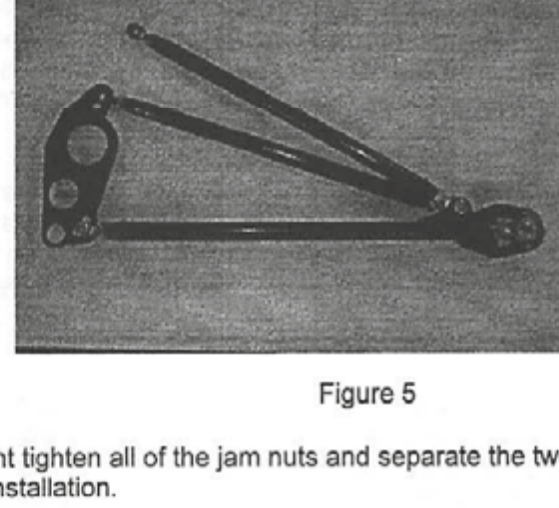

Figure 5
4. Next, attach the front end of the upper bars to the mounts on the lower bar using the 3/4" bolts and nuts, then tighten. See Figure 5.
5. Using two of the 5/8" bolts provided in the kit, insert one through each of the solid rod eyes of one ladder bar. Insert one of the 3/4" bolts through the front rod end. All three bolts must be facing the same direction. Lay the bar on the ground with the threads of the bolts facing up. Next, take one of the housing brackets and align the two rear bolts so that they go through the appropriate holes in the housing bracket. See Figure 5 and 6.
bar to fit over the bolts, including the bolt at the front of the ladder bar in the spherical rod end. This should assure that both ladder bars are adjusted the same. See Figures 5 and 6.